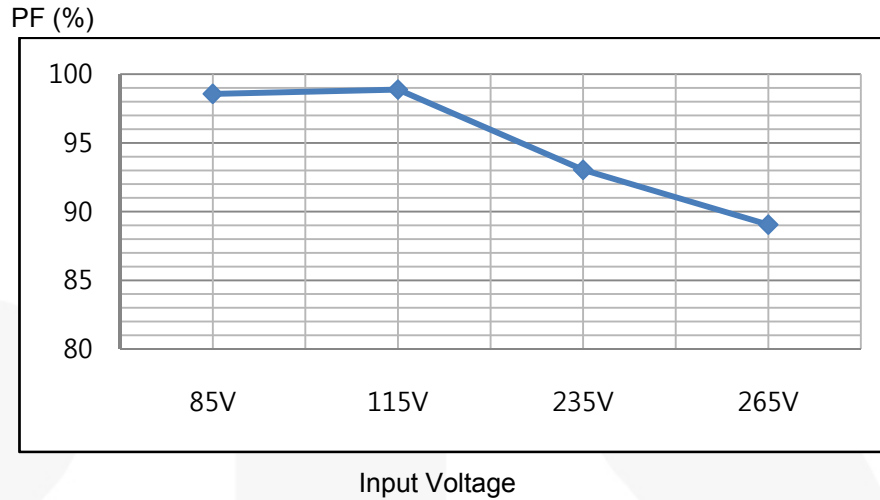

Figure 14. Power Factor Curve
8.2. Power Factor (PF)
Figure 14 shows at least 89% power factor (PF) is achievable with universal input condition at the rated output LED load.